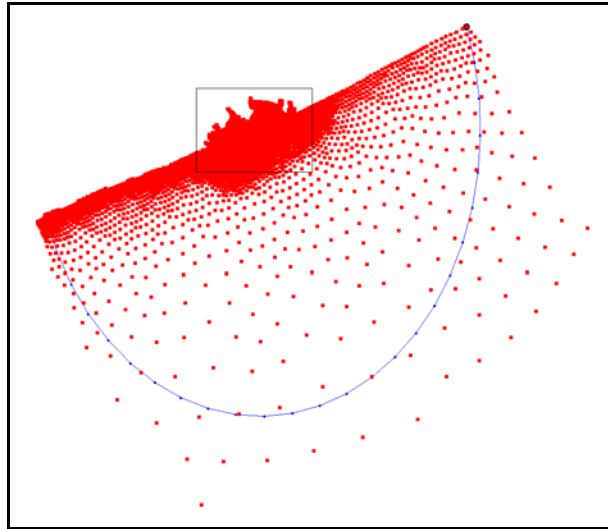
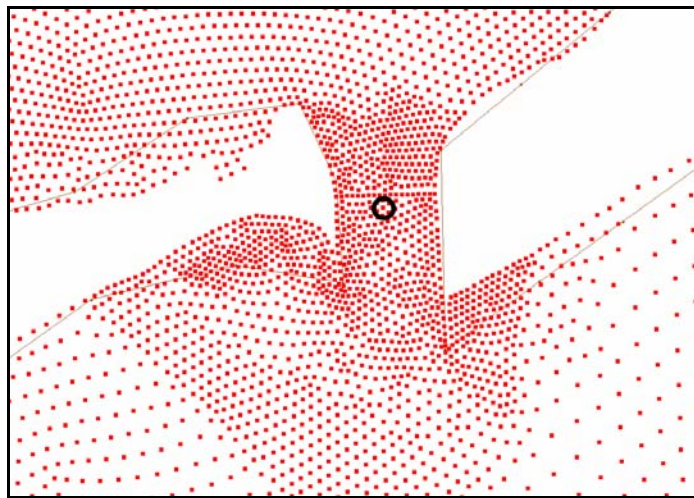

Figure 3 Inlet location to zoom in on.
Figure 4 Choose a center point.
1. Still in the Scatterpoint  module, zoom in to the area of the inlet shown in Figure 3 with the Zoom  tool until your screen looks like Figure 4.